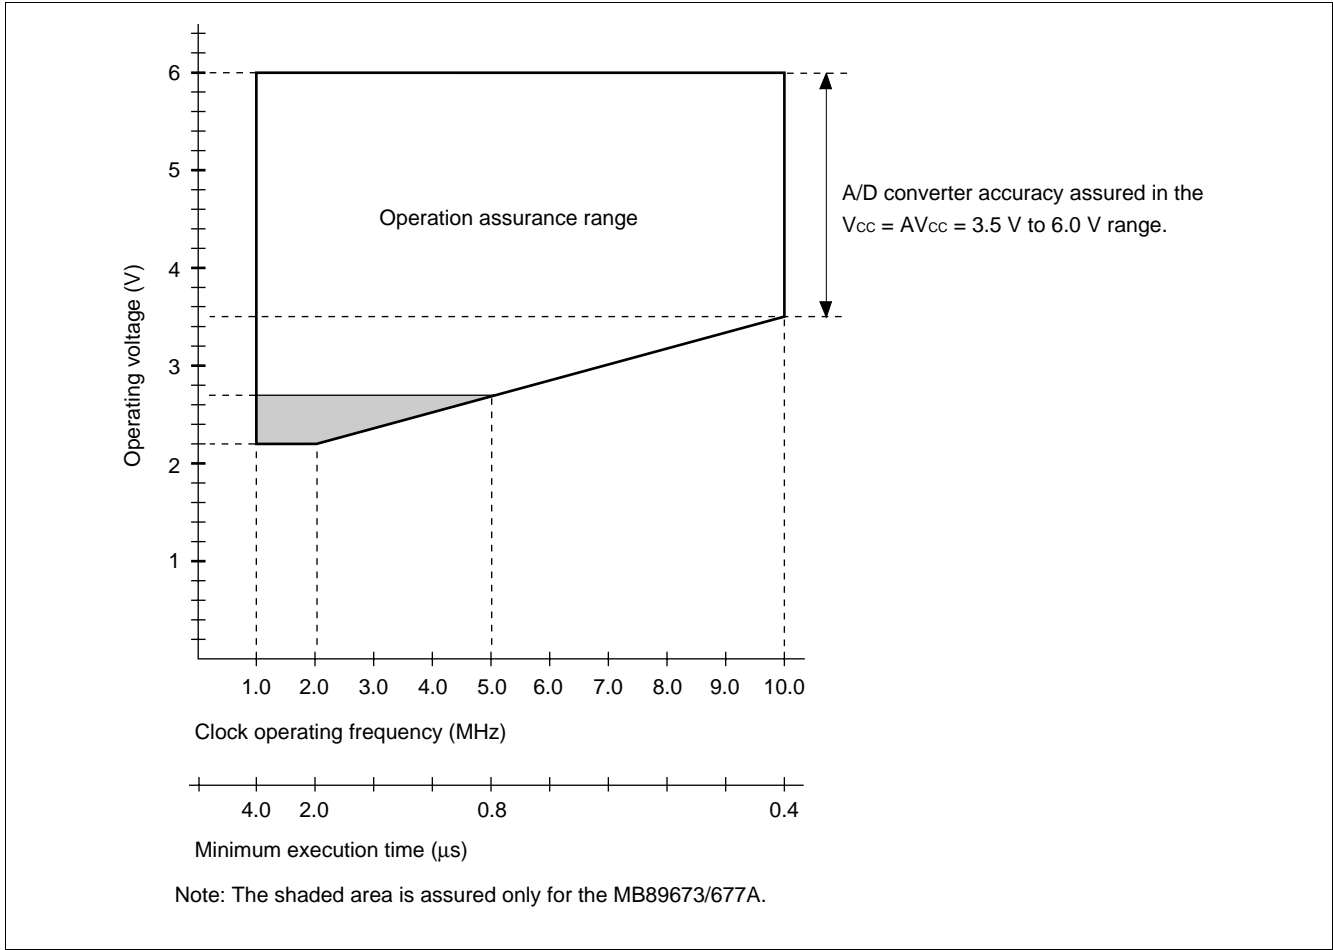

Figure 1 Operating Voltage vs. Clock Operating Frequency
* : These values vary with the operating frequency, and analog assurance range. See Figure 1 and "5. A/D Converter Electrical Characteristics."
Figure 1 indicates the operating frequency of the external oscillator at an minimum execution time of 4/F_C.